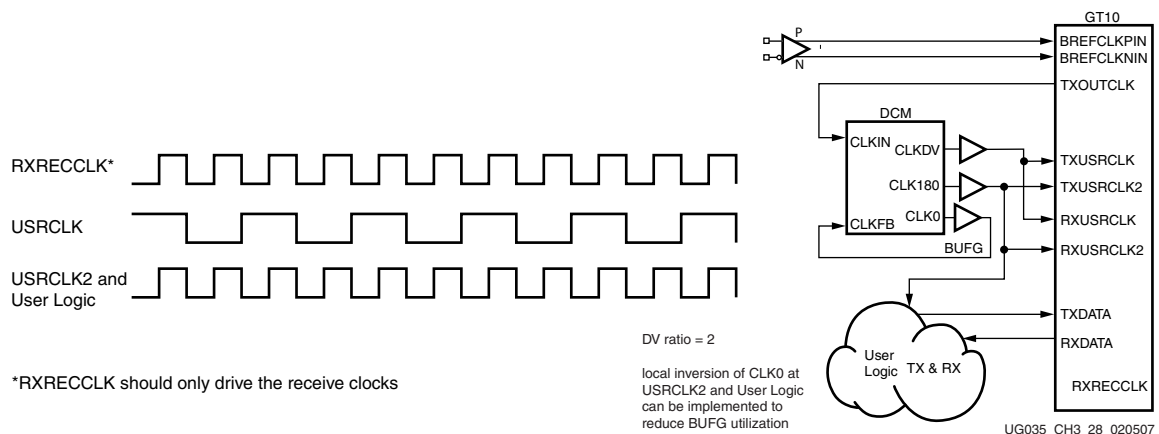

Figure 3-15: RXRECCLK 2:1:2
**Note:** Figure 3-15 shows the RocketIO X transceiver instantiated using the recovered clock to clock in the FPGA fabric on the receive side. This can be used to avoid clock correction schemes. The TX can have any of the other 1:2 use models. Also, the waveform only indicates the receive clocks.